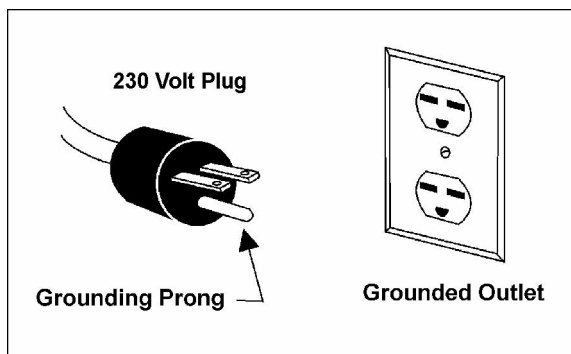

Figure 13
3. The 115V attachment plug supplied with the drill press must be replaced with a UL/CSA listed plug suitable for 230V operation, similar to the plug illustrated in Figure 13. Contact your local Authorized Powermatic Service Center or qualified electrician for proper procedures to install the plug.
- The drill press with a 230-volt plug should only be connected to an outlet having the same configuration as shown in Figure 13. No adapter is available or should be used with the 230-volt plug.